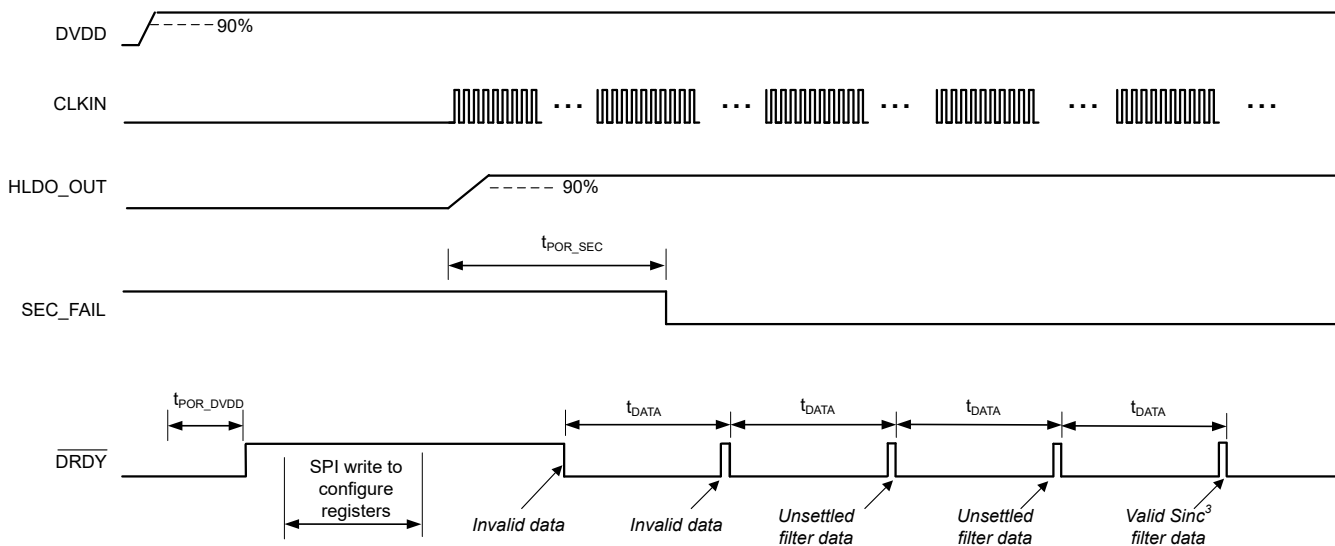
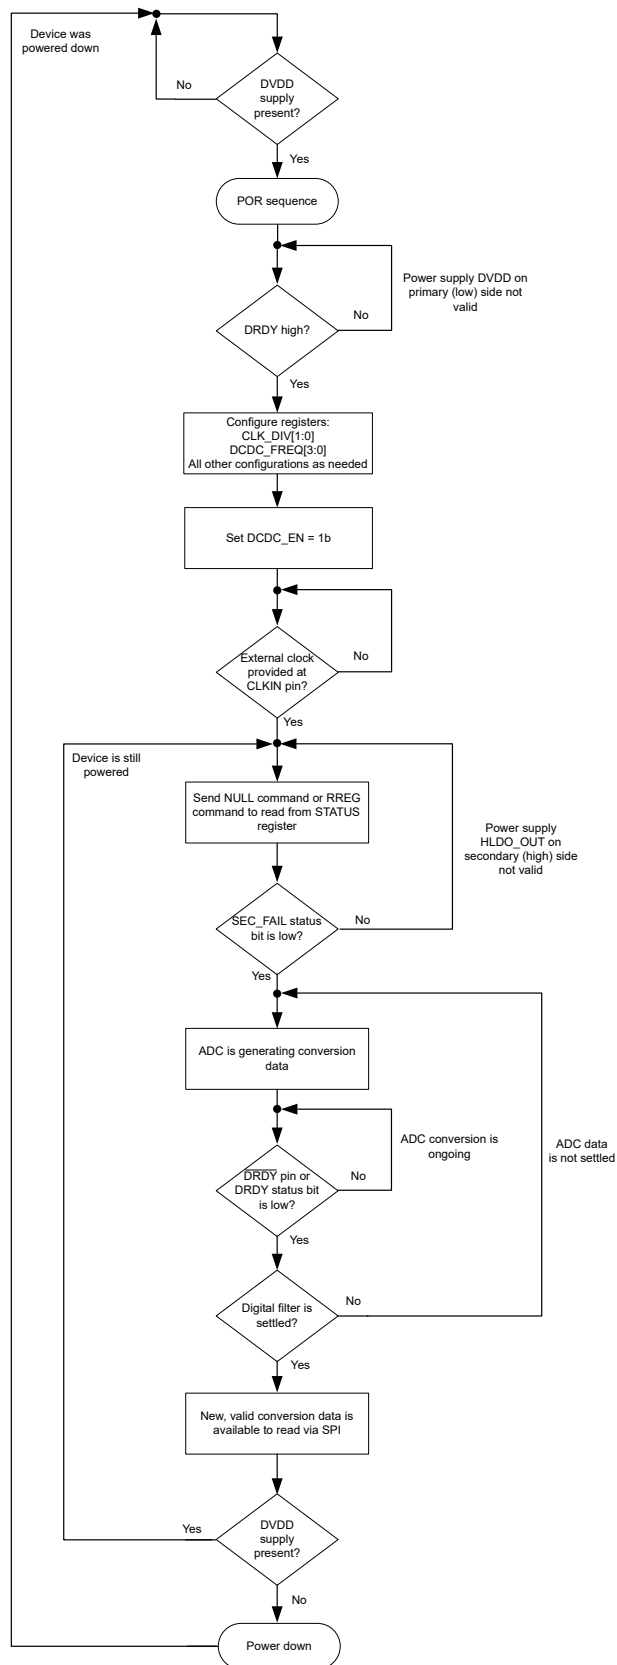

Figure 8-16. Start-Up Behavior at Power-Up and Settling Times, OSR = 1024
図 8-17. Flow Diagram for Start-Up Procedure at Power-Up
A recommended procedure for powering up the AMC131M02 is described in this section. Figure 8-16 depicts a timing diagram for the device behavior when this recommended sequence is used. Figure 8-17 provides a flow diagram that displays the recommended sequence in a graphical form.
- The high-to-low transition of $\overline{\text{DRDY}}$ indicates that new conversion data are available. As given in Figure 8-16, ADC data are only valid if the SEC_FAIL reads 0b during the conversion period. The first two conversion results shown in Figure 8-16, represent invalid data.
- When the ADC generates valid data, the digital filter must settle, as described in the SINC³ and SINC³ + SINC¹ Filter section. Two subsequent conversion results illustrated in Figure 8-16 are unsettled (assuming OSR equals 1024), and the last conversion result shown provides valid and settled data.
In Figure 8-16, $t_{\text{POR_SEC}}$ is the time from enabling the DC/DC converter to the first falling edge of the SEC_FAIL bit, which indicates that the secondary power supply at the HLDO_OUT pin is stable. $t_{\text{POR_DVDD}}$ is the time from DVDD supply at 90% to $\overline{\text{DRDY}}$ first rising edge.